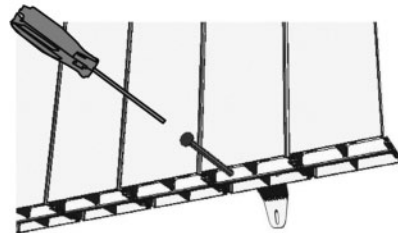

Fig. 11
8. Insert the two plugs and secure with the two screws (B) to completely secure the heater to the wall. (Figure 11).